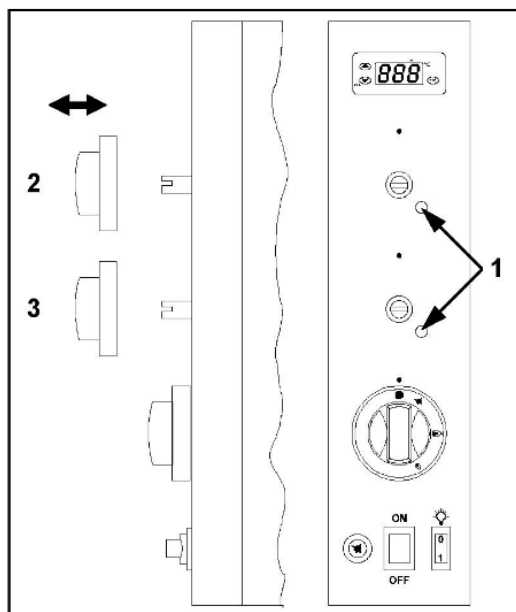

FIG.10 (Minimum regulation upper and lower burners)
For liquid gas operation (G30 - G31) the minimum is fixed and the screw (**FIG.10-Ref.1**) fastened ,for the use of other types of gas the minimum regulation is as follows:
- Pull off manually the respective burner knob on the control panel (**FIG.10-Ref.2/3**);
- Turn the screw (**FIG.10-Ref.1**) anticlockwise 2 or 3 times and then fix the knob again;
- Pull off again the knob and fasten the screw (**FIG.10-Ref.1**) until the lighted flame is visibly acceptable;